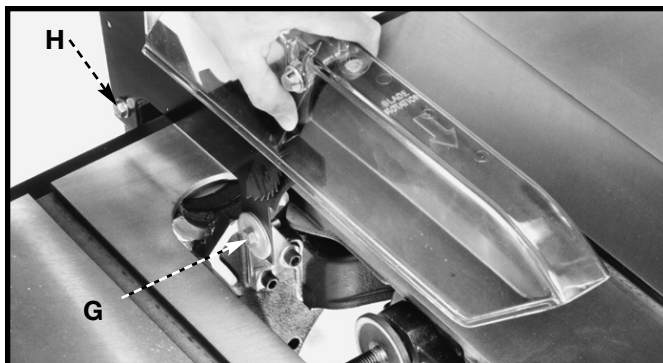
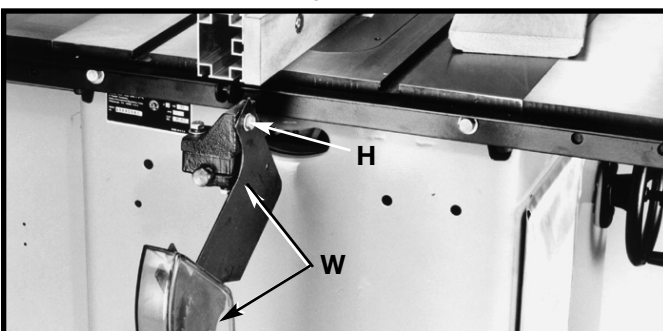

Fig. 58A
Fig. 59
⚠ CAUTION FOR CERTAIN CUTTING OPERATIONS (DADOING AND MOULDING) WHERE THE WORKPIECE IS NOT CUT COMPLETELY THROUGH, THE BLADE GUARD AND SPLITTER ASSEMBLY CANNOT BE USED. LOOSEN SCREWS (G) AND (H) FIG. 58A. LIFT UP AND SWING BLADE GUARD AND SPLITTER ASSEMBLY (W) FIG. 59 TO THE REAR OF THE SAW AND RETIGHTEN (H).